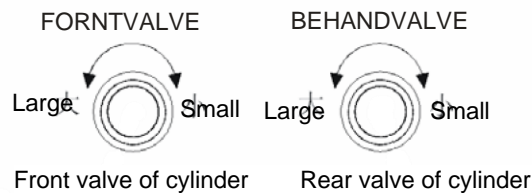

Figure 1
- (1) Connect the air source and slide the air inlet collar towards the machine.
- (2) Check whether the air pressure meter is in the specified range. If not, draw the air pressure knob outwards to unlock, rotate the pressure regulator knob until the pressure is in the specified range (0.4-0.5Mpa) and push the knob back in to lock.
- (3) Use the switch to set the filler to semiautomatic mode, controlling the filler through the foot pedal.
- (4) To make an adjustment, loosen the adjustable handle on the adjustment block, rotate the handwheel, read the value on the position display and tighten the handle.
- (5) Adjust the front valve (for adjusting drawing speed) and behind valve (for adjusting filling speed) as shown in Figure 1 to get reasonable drawing and filling speed.